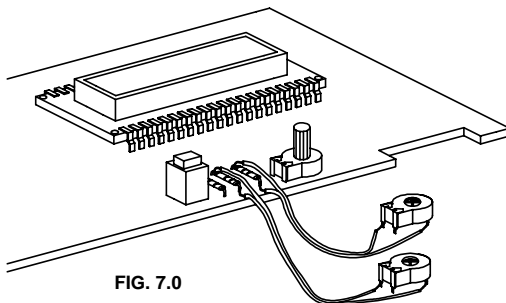

FIG. 7.0
- Solder a 1M trimmer parallel to both R2 and R33 (see fig. 7.0).